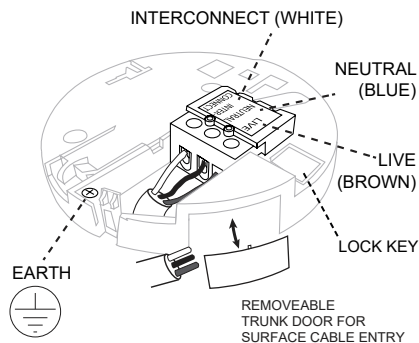

FIGURE 6 – REMOVE WIRING COVER
- Use a Screw driver to remove the Wiring Cover. See **Figure 6**.